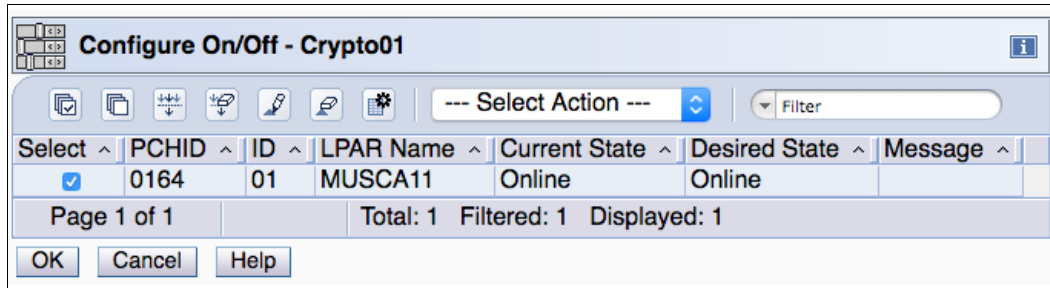

Figure 10-28 Config On/Off (Online)
2. Select the cryptographic coprocessor channel number that you want, and click **Select Action** → **Toggle All Standby** to switch from Online to Standby (see Figure 10-28).